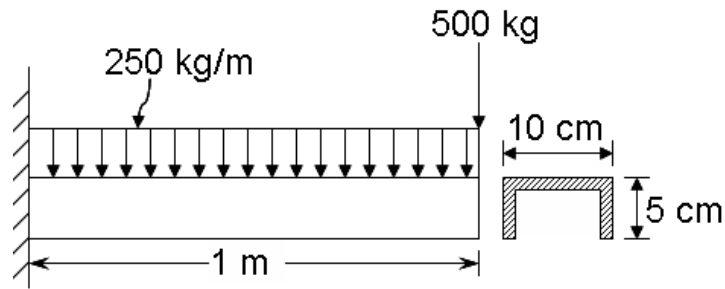

Fig. Q3
3. A cantilever 1m long carries a concentrated load of 500 kg at its free end and a UDL of 250 kg/m over the entire length. The cantilever has a channel section with overall width 10 cm, depth 5 cm and 1.5 cm thick web and flanges as shown in **Fig. Q3**. Calculate the value of maximum compressive and tensile stress produced due to bending. [9+9]